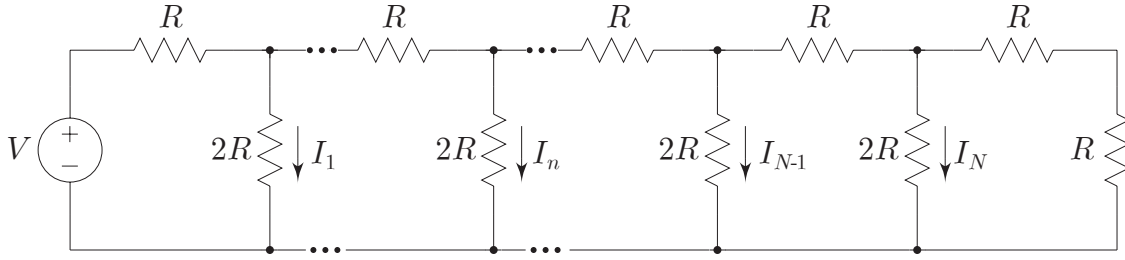

Figure 1.1: An R - $2R$ ladder network.
3. **R-2R Ladder Network.** Consider the circuit shown in Fig. 1.1. It is called an R - $2R$ ladder network, because if you were to turn it sideways it would look like a ladder. This type of circuit is commonly used to build digital-to-analog (D/A) converters to interface computers to the real world, as you will be considering in the postlab section. As a function of the applied voltage, V , and the unit resistance, R , what are the currents, I_1 through I_N , that flow through each of the $2R$ branches?
4. **Accurate 2:1 Resistor Ratios.** In order to obtain accurate current division at each branch in the R - $2R$ ladder network shown in Fig. 1.1, we need to have accurate 2:1 ratios between the various branches in the network. When designing integrated circuits, we obtain the most accurate ratios (for rational numbers) when we use an integral number of well-matched unit-sized devices. In this case, we would like to construct two effective resistances in a 2:1 ratio from three identical resistors, each with a resistance R . Come up with two different methods to accomplish this goal. In building an R - $2R$ ladder network, which method uses fewer unit resistors?